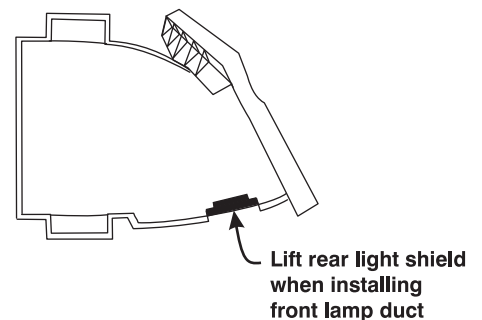

Figure 7-3 Light Shield on Front Lamp Duct
9. Re-install the front lamp duct. As you install the front lamp duct, lift the small light shield on the rear lamp duct cover so that it does not get jammed between the two pieces when they come together. **(Figure 7-3)** To ensure a good fit between the two pieces, squeeze the top and bottom cover snaps to ensure they are locked in place. The light shield should move freely to the touch.